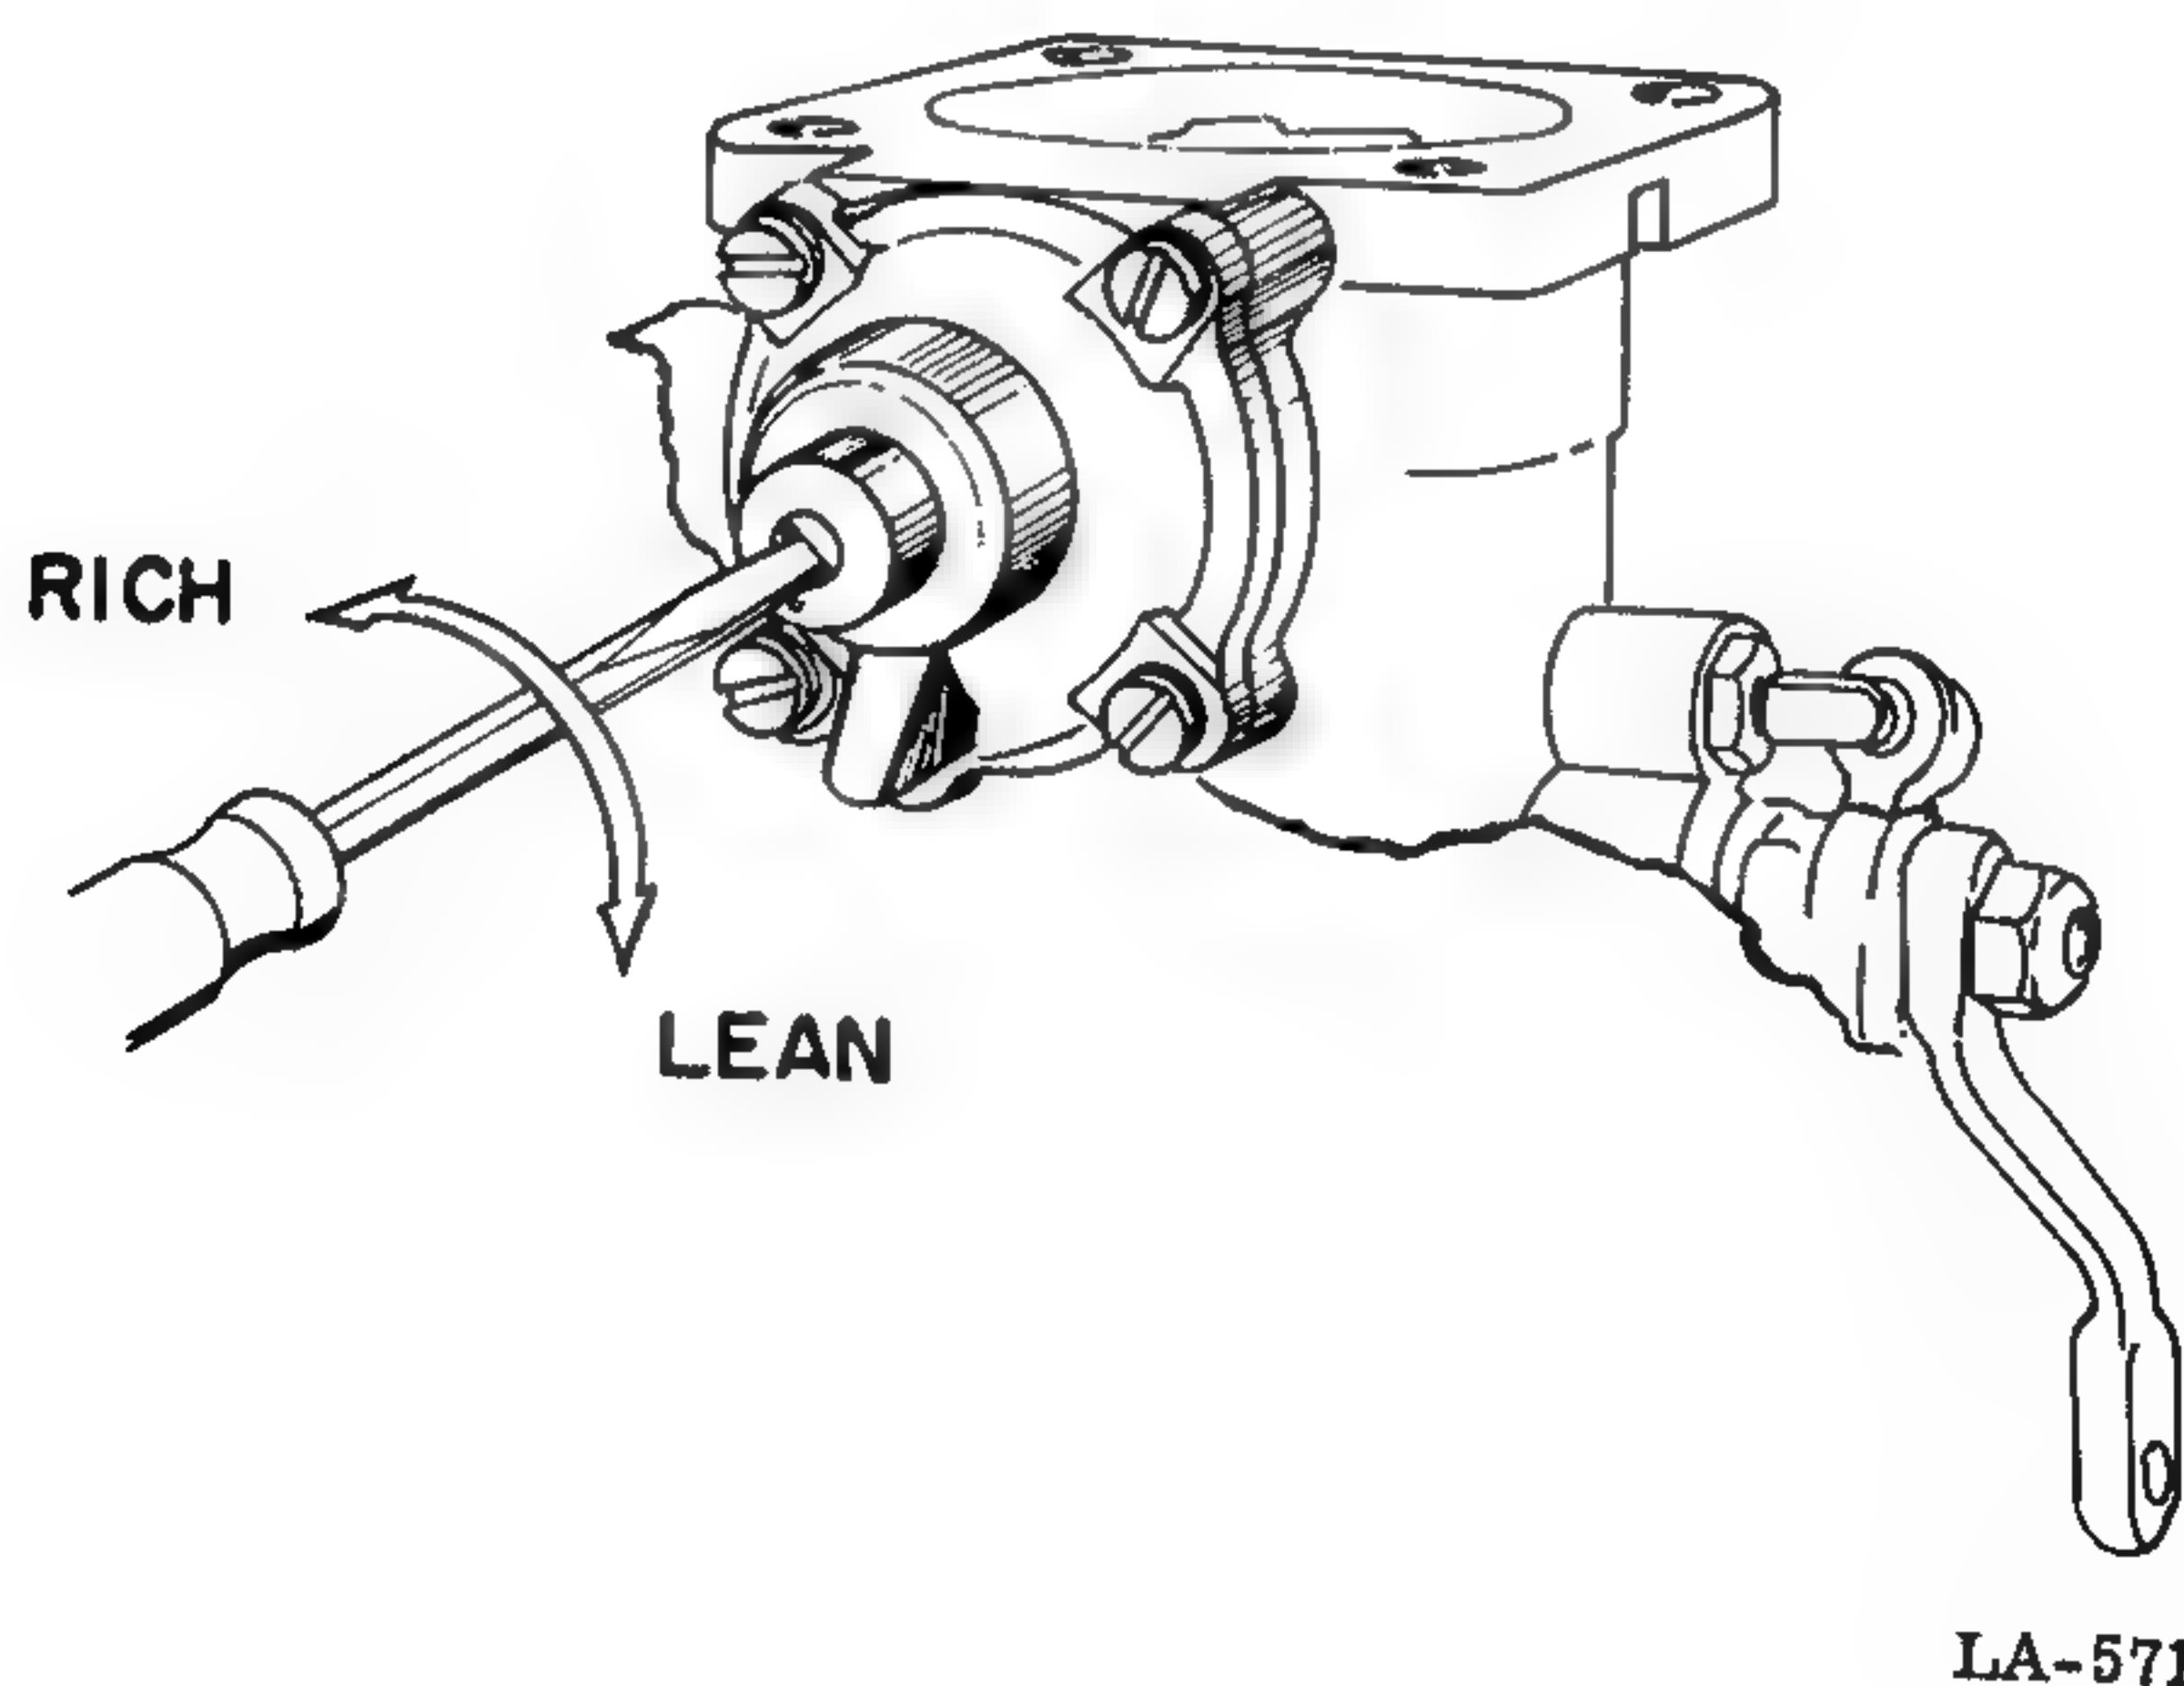

Figure 13.
a. Adjustments made to the discharge nozzle have not been considered approved field adjustments. However, on recent production carburetors, a limiting device has been incorporated which permits safe adjustment of the discharge nozzle in the field (See figure 13). The discharge nozzle adjustment limiter may be installed on any PS carburetor at time of overhaul.